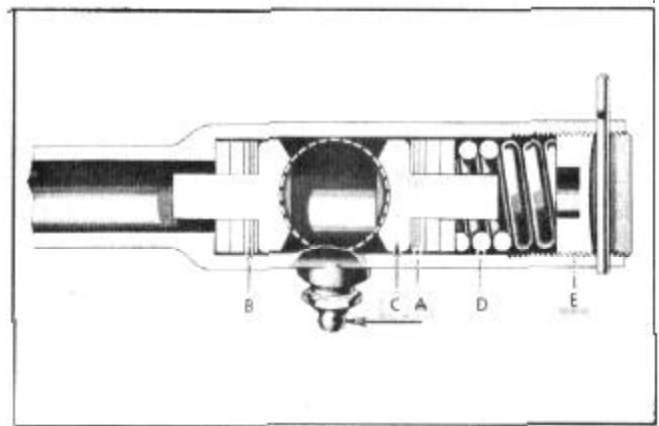

FIGURE 7
The drag link on all models is of the same construction at each end. However, the rear end has a shim adjustment for setting front wheels in the straight ahead position (A and B), Figure 7. Drag link assembly used on Model 500 differs in length and angle from drag links used on other models.
8. If steering wheel spokes are not horizontal with gauge in this position, disconnect drag link at pitman arm and interchange shim packs (A and B), Figure 7, until horizontal position of spokes is attained, and attach drag link.